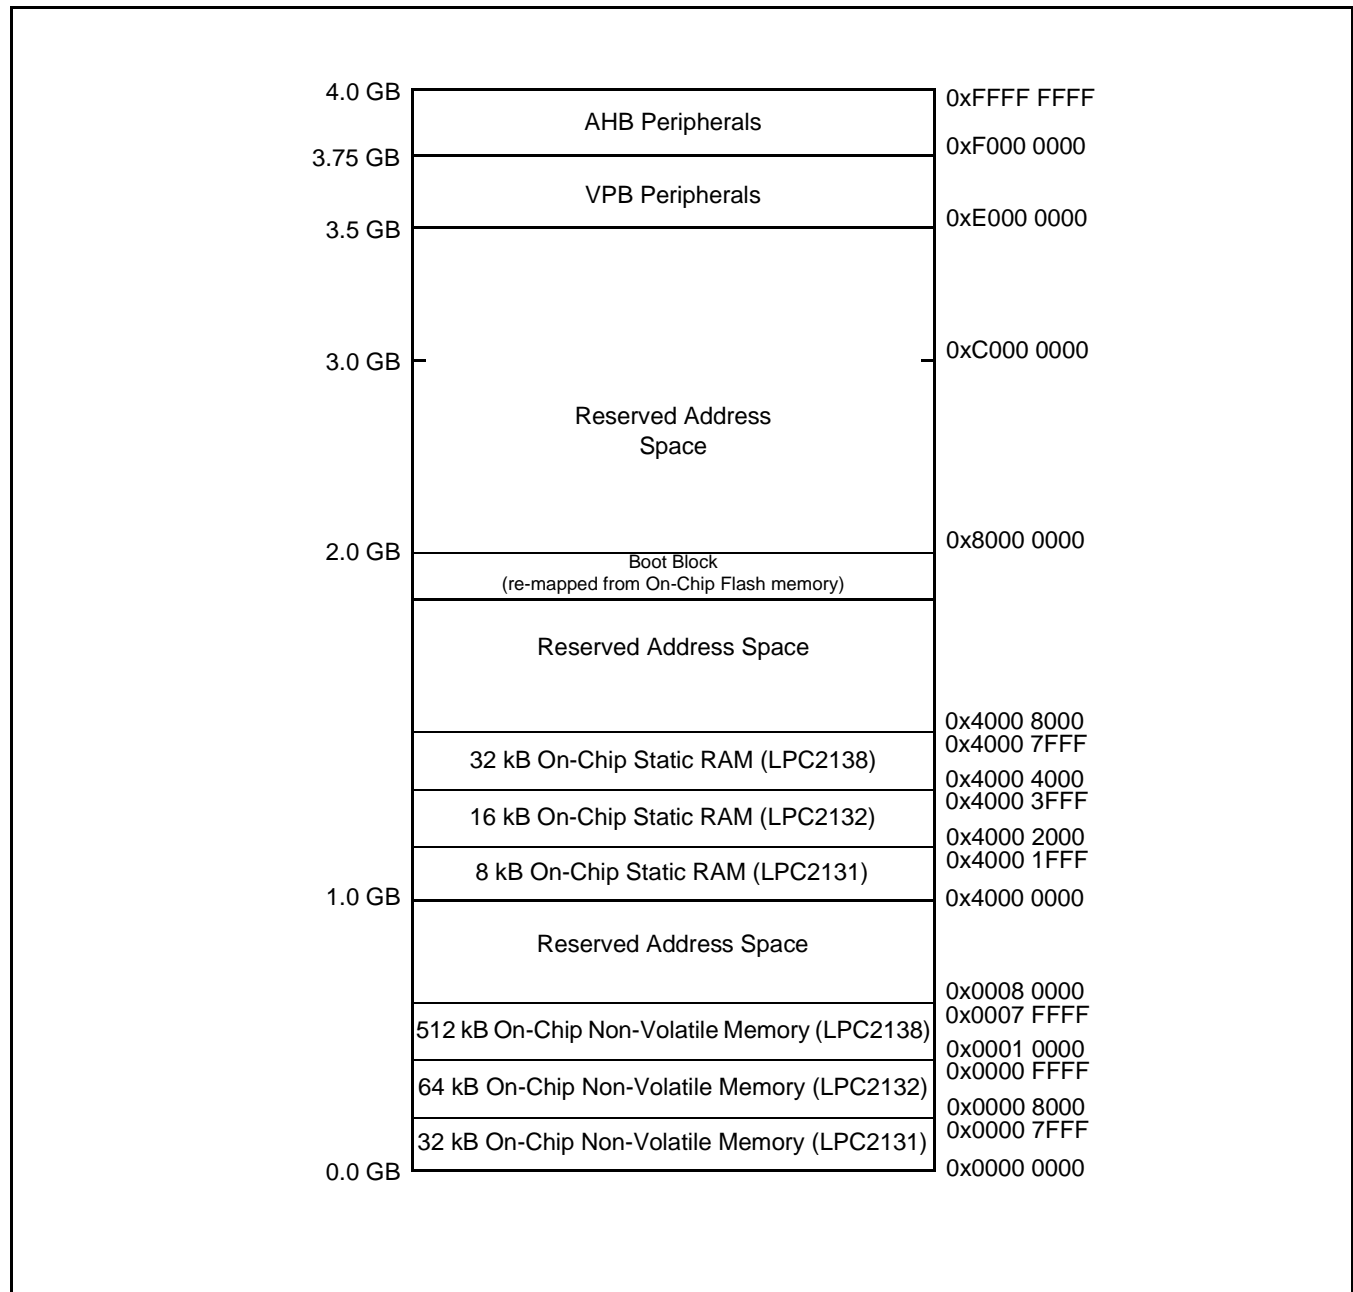
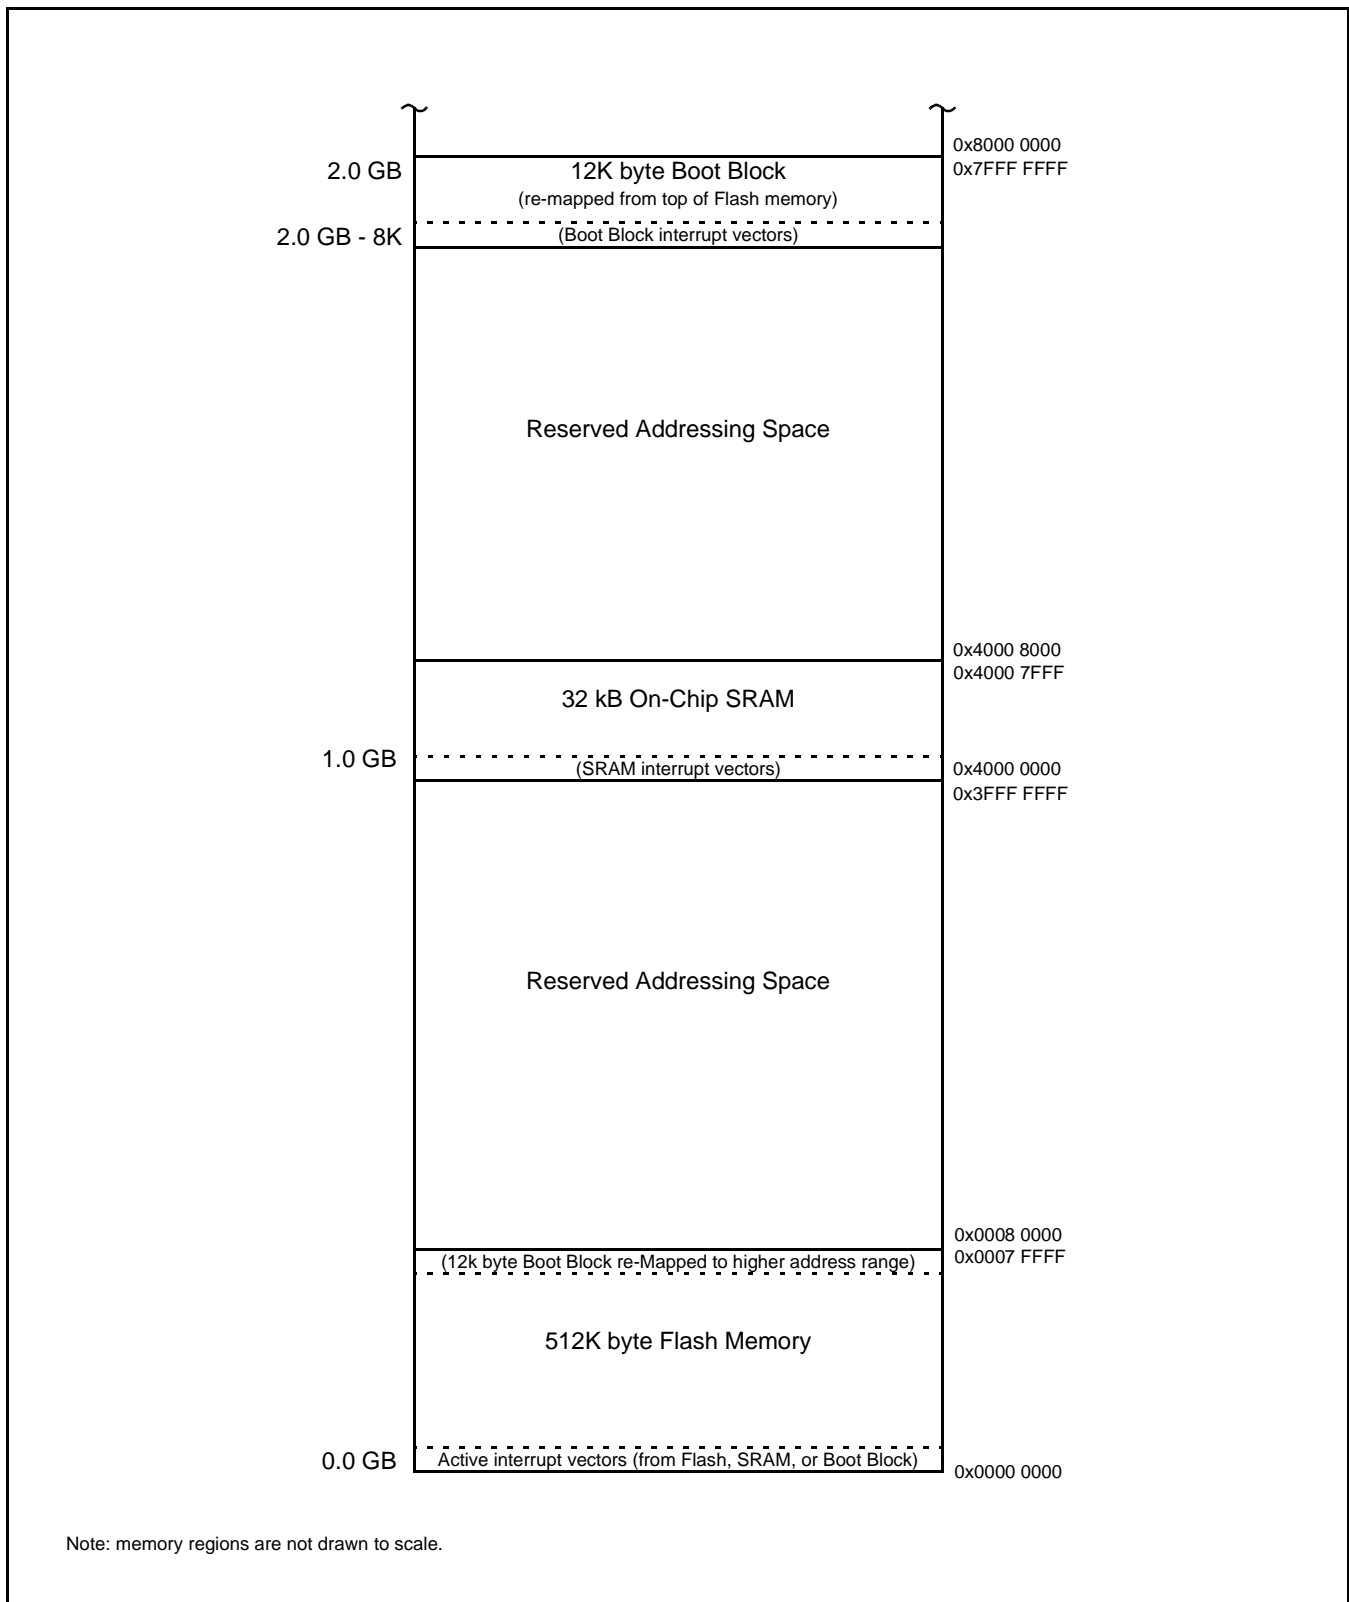

Figure 2: System Memory Map
Figure 6: Map of lower memory is showing re-mapped and re-mappable areas (LPC2138 with 512 kB Flash).
In order to allow for compatibility with future derivatives, the entire Boot Block is mapped to the top of the on-chip memory space. In this manner, the use of larger or smaller flash modules will not require changing the location of the Boot Block (which would require changing the Boot Loader code itself) or changing the mapping of the Boot Block interrupt vectors. Memory spaces other than the interrupt vectors remain in fixed locations. Figure 6 shows the on-chip memory mapping in the modes defined above.
- Address space between On-Chip Non-Volatile Memory and On-Chip SRAM, labelled "Reserved Addressing Space" in Figure 2 and Figure 6. For 32 kB Flash device this is memory address range from 0x0000 8000 to 0x3FFF FFFF, for 64 kB Flash device this is memory address range from 0x0001 0000 to 0x3FFF FFFF, while for 512 kB Flash device this range is from 0x0008 0000 to 0x3FFF FFFF.
- Address space between On-Chip Static RAM and External Memory. Labelled "Reserved Addressing Space" in Figure 2. For 8 kB SRAM device this is memory address range from 0x4000 1FFF to 0x7FFF DFFF, for 16 kB SRAM device this is memory address range from 0x4000 3FFF to 0x7FFF DFFF, while for 32 kB SRAM device this range is from 0x4000 7FFF to 0x7FFF D000. This is an address range from 0x4000 3FFF to 0x7FFF D000.